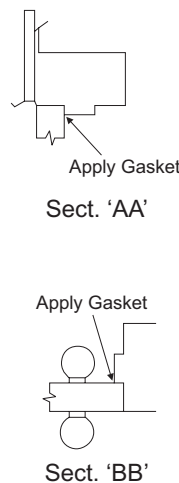

Fig. 5
**F** Install lockset. Install weatherstrip (optional) at head first. If weatherstrip is applied type, adjust it so that gasket just contacts door when door is closed and latched. Do not force gasket against door as this will interfere with latching of lock, see Fig. 5.